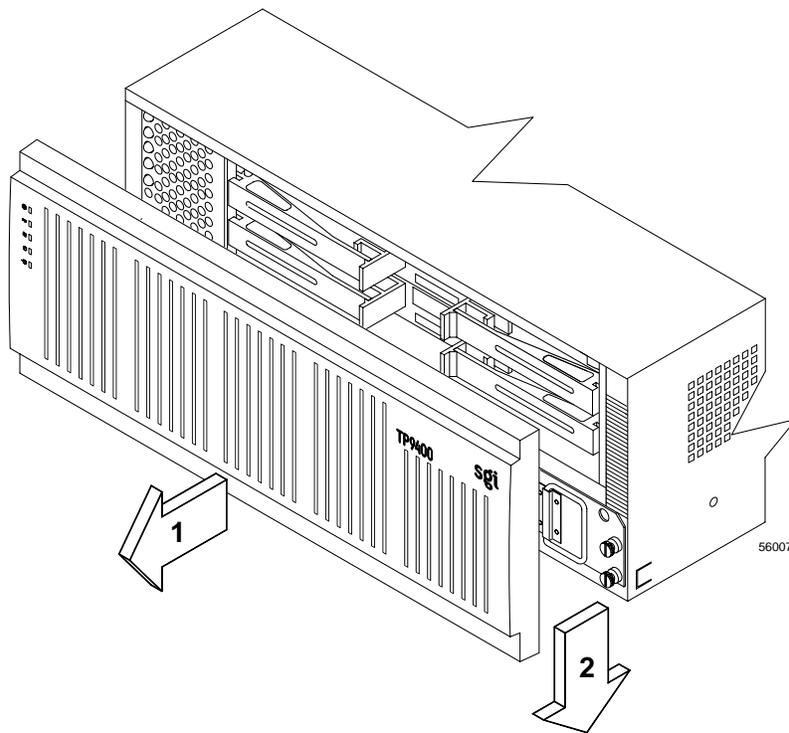

Figure 4-1 Removing the Front Cover of the Controller Enclosure
3. Remove the front cover (Figure 4-1).
7. Replace the front cover on the controller enclosure (Figure 4-1 on page 44).
6. Replace the front cover by reversing the sequence in Figure 4-1 on page 44.
2. Remove the front cover (Figure 4-1 on page 44).
6. Replace the front cover by reversing the sequence in Figure 4-1.